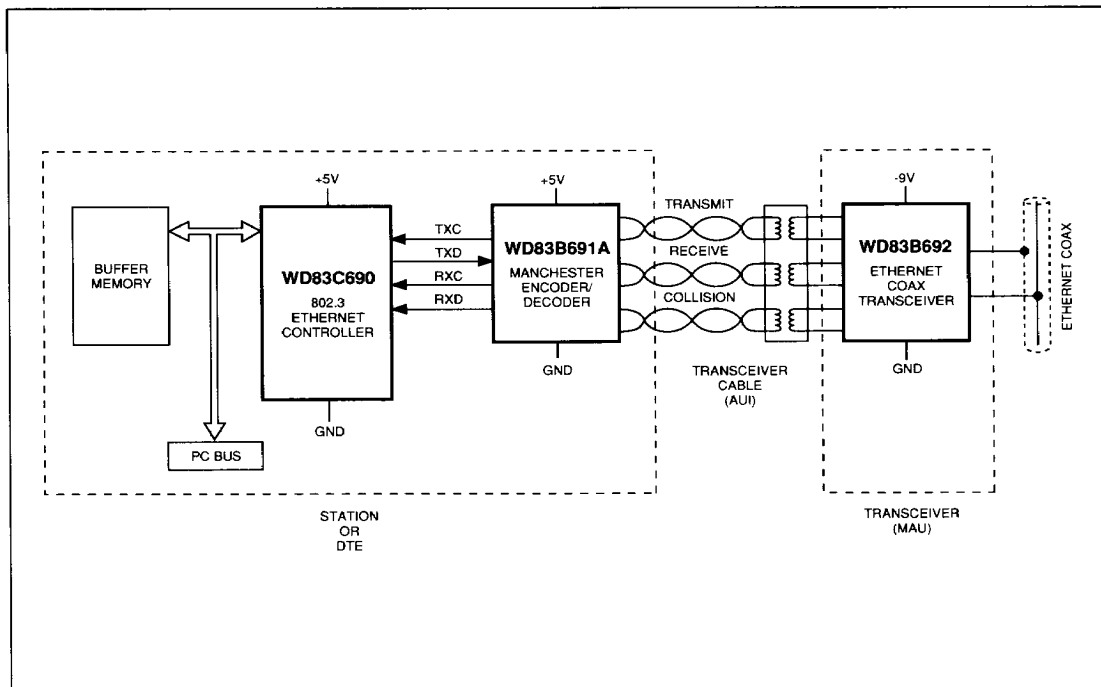

FIGURE 1-1. WD83C691A SYSTEM INTERFACE
The WD83C691A is part of a three-device set that implements the complete IEEE 802.3-compatible network node electronics (see Figure 1-1). The WD83C690 Ethernet LAN Controller (ELC) and the WD83B692 Ethernet Transceiver (ET) comprise the other two devices in the set. The WD83C690 provides media access protocol functions and performs buffer management tasks, while the WD83B692 serves as a coaxial cable line driver/receiver and collision detector.